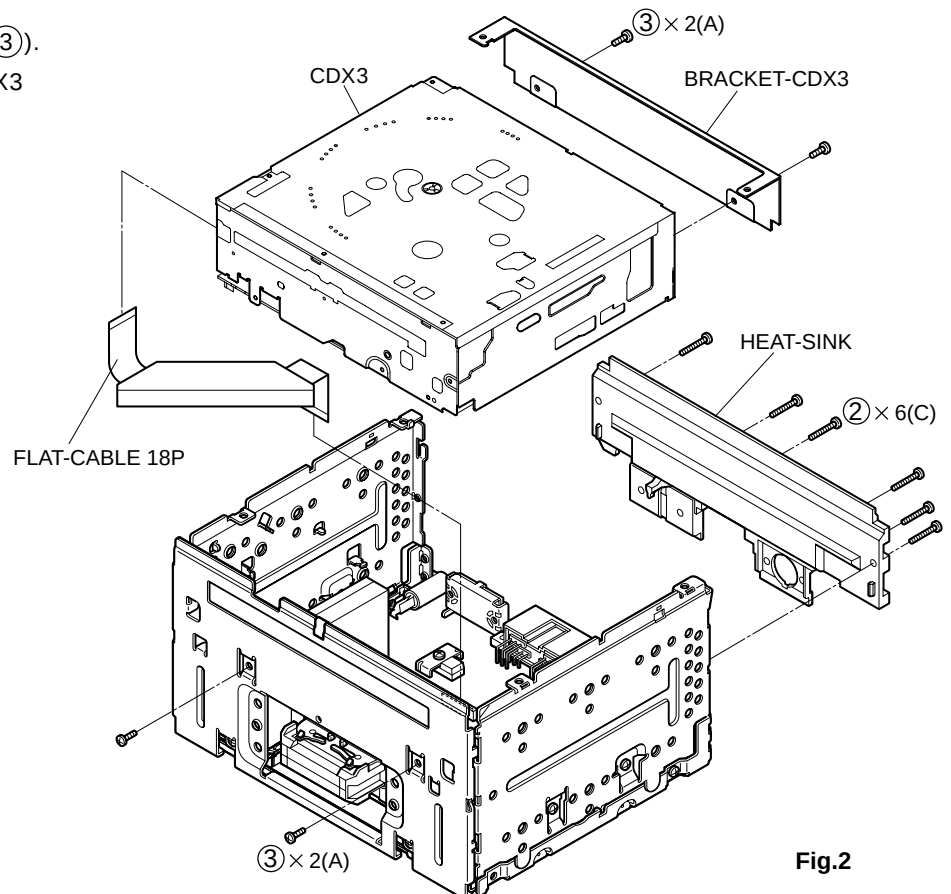

Fig.2
2. Removal of CDX3 (See Fig.2)